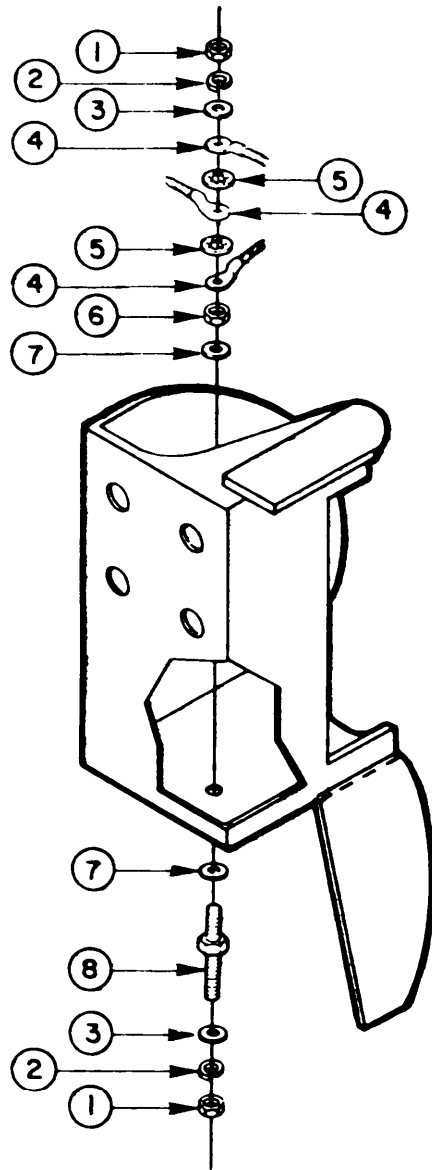
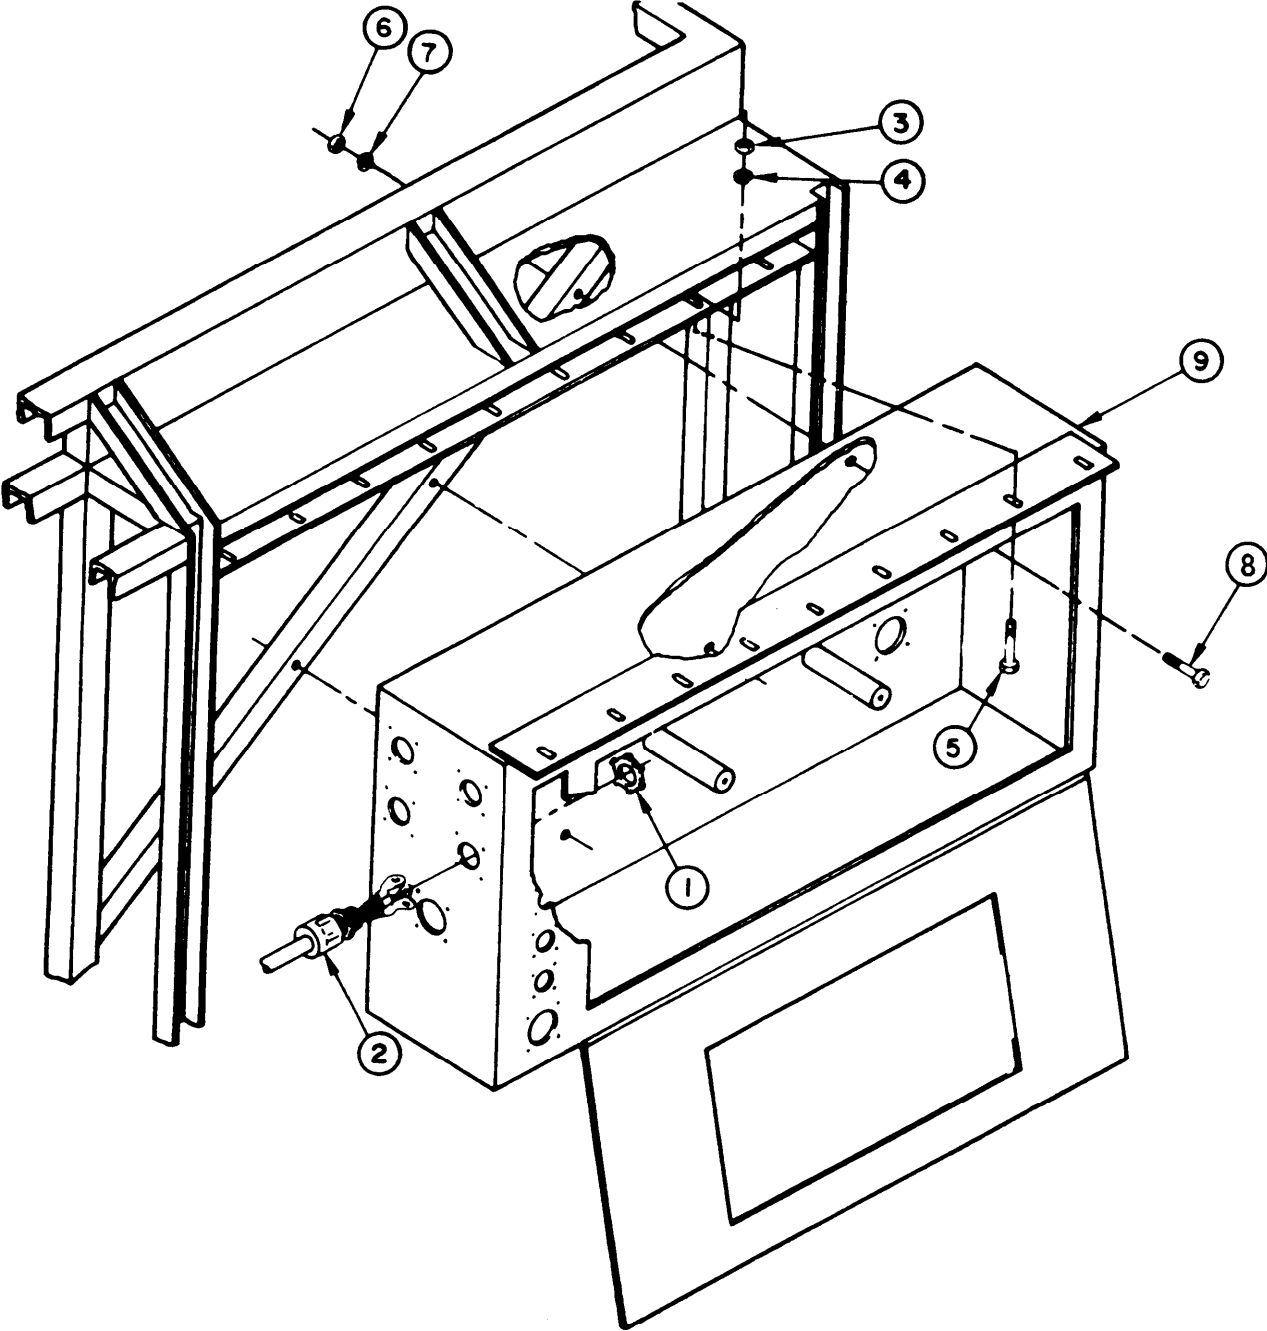

Figure 2-62. Ground Lug
Figure 2-63. Junction Box Assembly
- (8) Remove terminal blocks from junction box assembly in accordance with paragraph 2-62.
- (9) Remove cable clamps and internal wiring harnesses in accordance with paragraph 2-65.
- (10) Remove receptacles for generator, control panel, R.O. pump, backwash pump, distribution pump, and two raw water pumps in accordance with paragraph 2-60.
- (11) Remove power receptacle (J7) in accordance with paragraph 2-61.
- (12) Remove two nuts (1), (figure 2-62), two lockwashers (2), and two flat washers (3) from grounding stud (8).
- (13) Remove wire lugs (4) and separating flat washers (5) from grounding stud (8).
- (14) Remove nut (6) and flat washer (7) from grounding stud (8).
- (15) Remove grounding stud (8) from junction box assembly.
- (16) Remove cable grip nut (1) from four cable grips (2). (Refer to figure 2-63.)
- (17) Remove four cable grips (2) and cables from junction box assembly.
- (18) Remove nine nuts (3) and nine lockwashers (4) from bolts (5) that secure junction box assembly (9) to top beam.
- (19) Remove nine bolts (5) from junction box assembly (9) and beam.
- (20) Support junction box assembly and remove three nuts (6) and three lockwashers (7) from bolts (8) securing junction box assembly to diagonal frame member.
- (21) Remove three bolts (8) from diagonal and junction box assembly (9).
- (22) Remove junction box assembly (9) from frame.
(1) Install Junction Box. (Figure 2-63)
- (b) Insert three bolts (8) through junction box (9) and diagonal frame member.
- (c) Install three lockwashers (7) and three nuts (6) on bolts (8), finger tight.
- (d) Install nine bolts (5), nine lockwashers (4) and nine nuts (3), finger tight, through top of junction box and top frame beam.
- (e) Tighten all nuts (3) and (6).
- (f) Slip four cable grips (2) over four cables.
- (h) From inside junction box assembly, slip four cable grip nuts (1) over wires and mount four cable grips (2) to junction box assembly.
(2) Install Ground Lug. (Figure 2-62)
- (a) Slip flat washer (7) over grounding stud (8).
- (b) Insert grounding stud (8) into mounting hole in junction box assembly.
- (c) Install flat washer (7) and nut (6) on grounding stud (8).
- (d) Install wire lugs (4) and separating flat washers (5) on grounding stud (8).
- (e) Install two flat washers (3), two lockwashers (2), and two nuts (1) on grounding stud (8).
(3) Reassemble Junction Box Assembly.